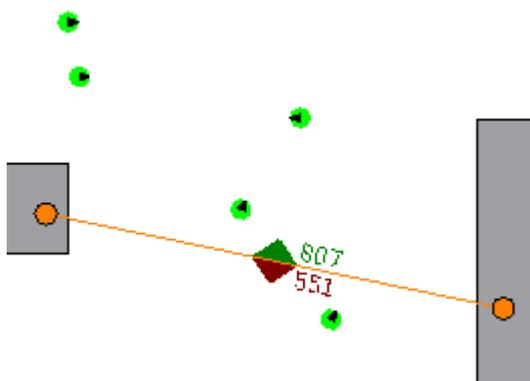

Figure 6: A flow counter showing the number of persons passing either way across the line.
Flow counters are a convenient tool for measuring traffic streams. A flow counter is a line segment that you draw in the 2D Output window. It indicates the number of pedestrians who crossed that line. For example, the flow counter in Figure 6 is drawn East-West and separately indicates the number of people who crossed it North-South and South-North.
We examine two types of crossing traffic. In experiment 3 we look at two unidirectional flows that cross perpendicularly. We vary the relative proportions of traffic traveling West-East (WE) and North-South (NS), see Figure 6. In experiment 4 we have a dense bidirectional stream flowing around the corner (50% WS and 50% SW) and a sparser bidirectional stream 50% WE and 50% EW. Again we vary the proportions of the streams, see Figure 7.
Figure 6: Overview of parameter settings for experiment 3 with two perpendicular unidirectional flows. Keeping the total flow fixed at 200 ped/min we vary the ratio between the WE and NS flow.